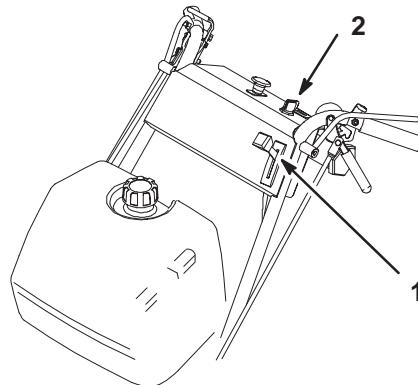

Figure 13
1. Move the throttle lever to "SLOW" (Fig. 13).
4. Turn the ignition key to "OFF" (Fig. 13).